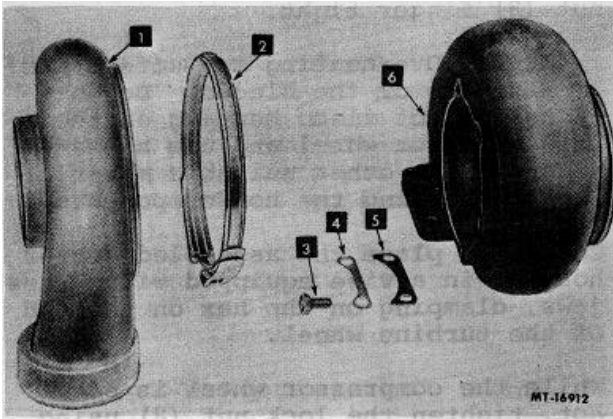

Fig. 23 Compressor and Turbine Housing
13. While the compressor wheel is still hot, tighten the lock nut (8) using a double universal joint to avoid side load which could cause the shaft to bend. Torque nut to specified torque (see TORQUE CHART). Upon reaching the specified torque, tighten an additional 1/3 turn.
14. After the compressor wheel has cooled below 66° C (1500 F), remove the lock nut (8). The washer face of lock nut and front face of the compressor wheel must be smooth and clean.
16. Remove the assembly from the vise and spin the wheels by hand. The wheels must rotate freely. Insure the turbine wheel does not rub against the shroud (24).
17. Install the turbine and compressor housing onto the center housing as follows (reference numbers refer to Fig. 23).
Legend for Fig. 23